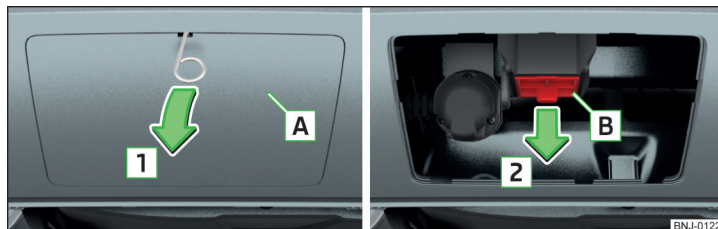

Fig. 154 Removing cap: on the rear bumper / for the receiving shaft
- Remove the cover cap **A** in the direction of arrow **1** » Fig. 154 using the on-board tool clamp for pulling off the wheel trims.
- Insert the cover **B** » Fig. 154 on page 120 in the opposite direction to arrow **2**.
- Fix the cap **A** » Fig. 154 on page 120 aligning it with "check mark" in the lower bumper area.